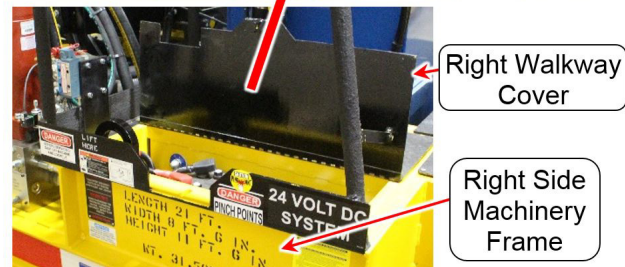

Figure 1-2: Battery Box, Right Side of Machine
- Turn the [BATTERY DISCONNECT] switch (BDS) to the OFF position. This turns off the power to the control circuits on the machine. See Figure 1-2.